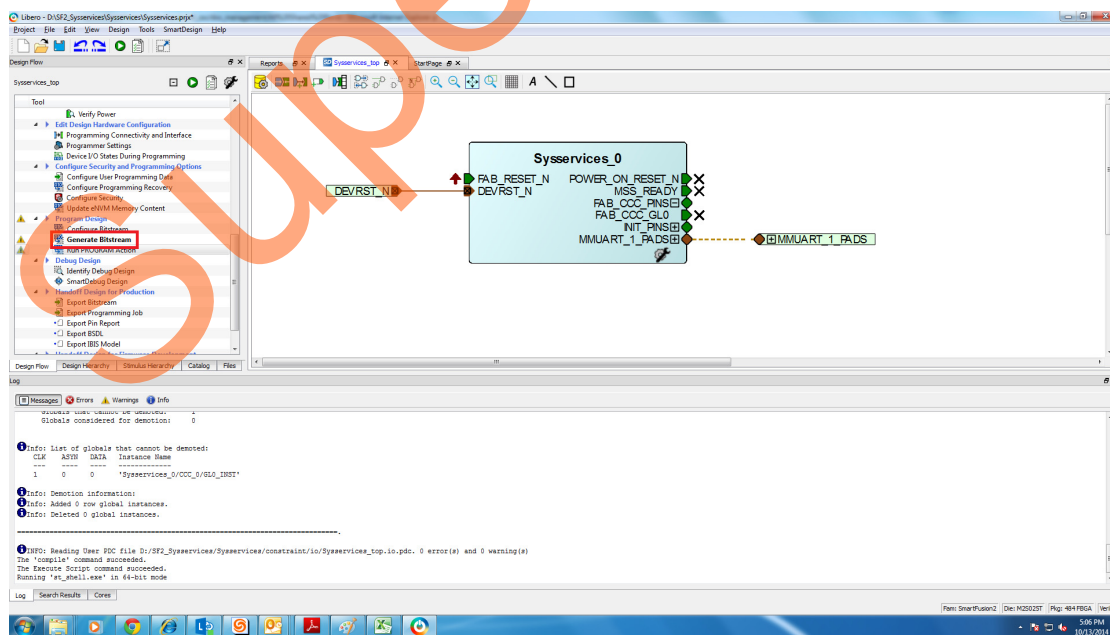

Figure 16 • Generate Bitstream Data
5. Click **Generate Bitstream** as shown in Figure 16 to complete place and route, and generate the programming file.